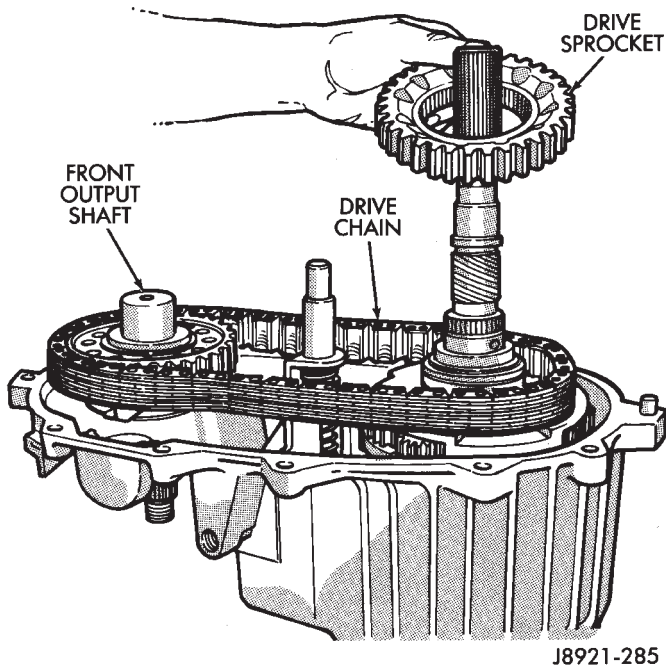

Fig. 68 Installing Drive Chain And Sprocket
- (50) Install front output shaft (Fig. 68).
(51) Install drive chain (Fig. 68). Engage chain with front output shaft sprocket teeth.
(52) Install drive sprocket (Fig. 68).
(53) Engage drive sprocket teeth with chain. Then engage sprocket splines with mainshaft splines.